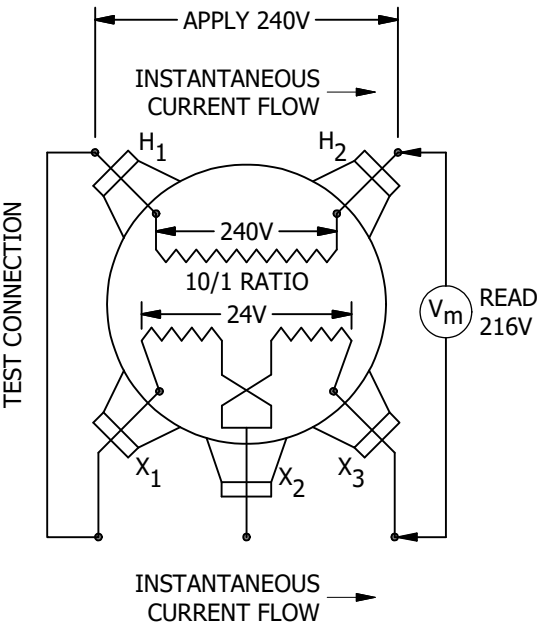

FIGURE 2
- THE POLARITY IS SUBTRACTIVE IF THE WINDING ACROSS THE OTHER TWO LEADS OF THE WINDINGS IN QUESTION IS LESS THAN THAT OF THE HIGH-VOLTAGE WINDING ALONE (FIGURE 2).